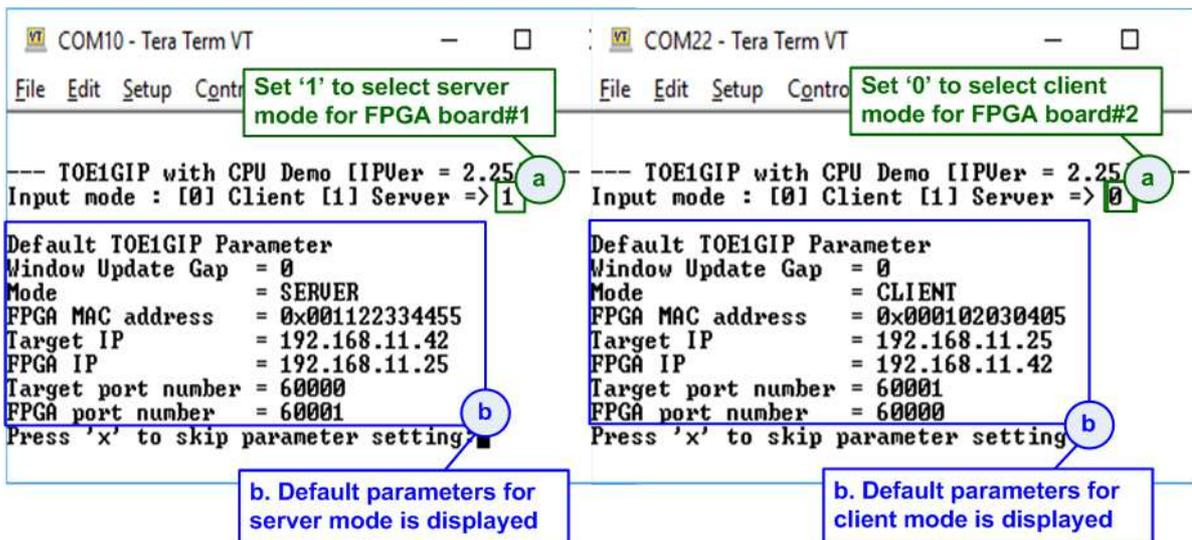

Figure 7-1 Input mode
- b. Default parameters for server or client are displayed on the console, as shown in Figure 7-1.